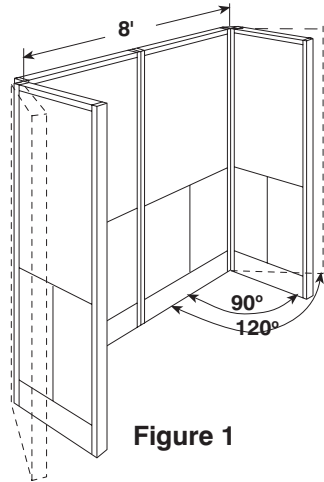

Figure 1
2. The maximum width of an island panel which provides support at only one end is 30". (See figure 1)